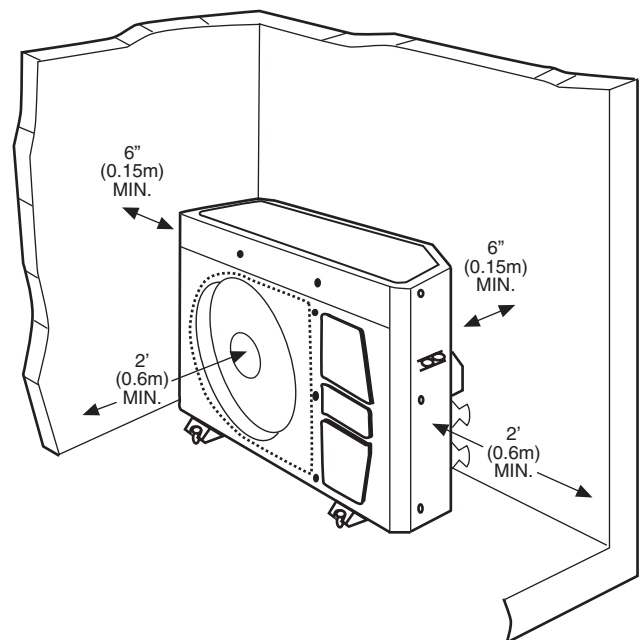

Fig. 1 — 38BNB,BNE Outdoor Unit Clearances
- Allow sufficient space for airflow clearance, wiring, refrigerant piping, and servicing unit. See Fig. 1 and 2 for minimum required distances between unit and walls or ceilings.